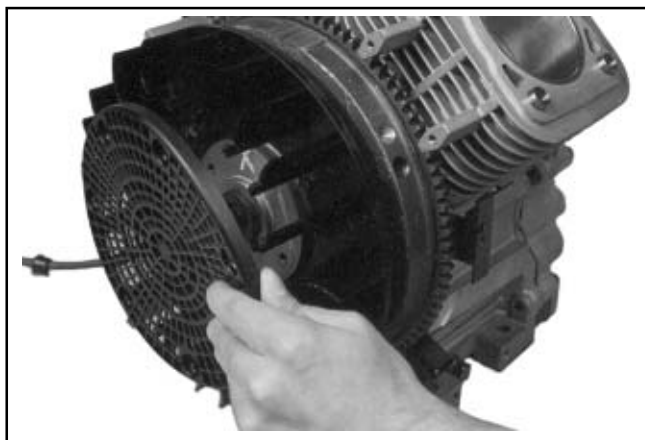

Figure 9-43. Removing Plastic Grass Screen.
1. On engines with a flat plastic screen, small metal retainers are typically attached on three of the seven mounting posts for positive retention of the plastic grass screen. Use a hook-end tool next to the post and pull outward to separate each of the small metal retainers. Then unsnap the screen from the mounting posts. See Figure 9-43.